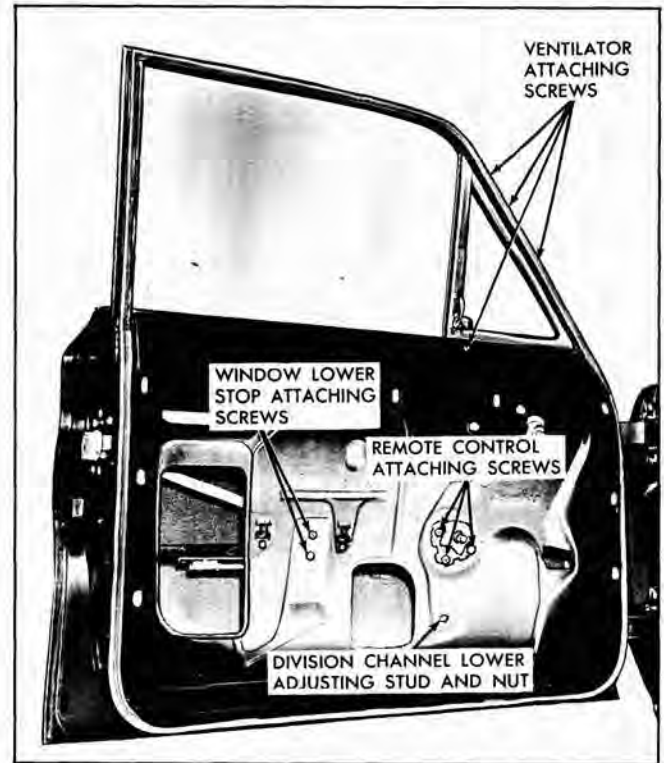

Fig. 13-16 Ventilator and Remote Control
3. Remove screws securing remote control assembly to door inner panel. Pull remote control away from door inner panel; then rotate remote control assembly one quarter turn to disengage connecting link from remote control assembly. Remove control assembly and connecting link from door (Fig. 13-16).
1. To adjust the lower portion of the ventilator division channel in or out or fore or aft, lower door window and loosen ventilator division channel adjusting stud nut (Fig. 13-16). Turn adjusting stud in or out or position lower end of channel fore or aft as required; then tighten stud nut.